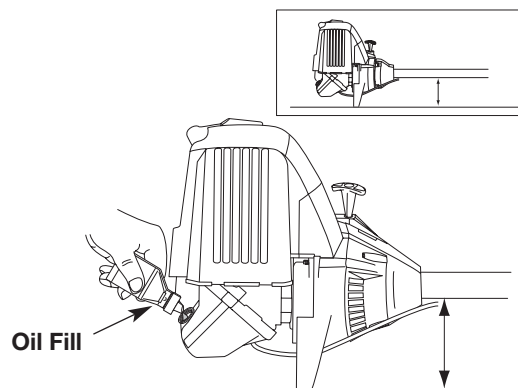

Fig. 17
2. Place the unit on a flat level surface (Fig. 17).
4. Pour the entire bottle of oil into the oil fill hole (Fig. 17).